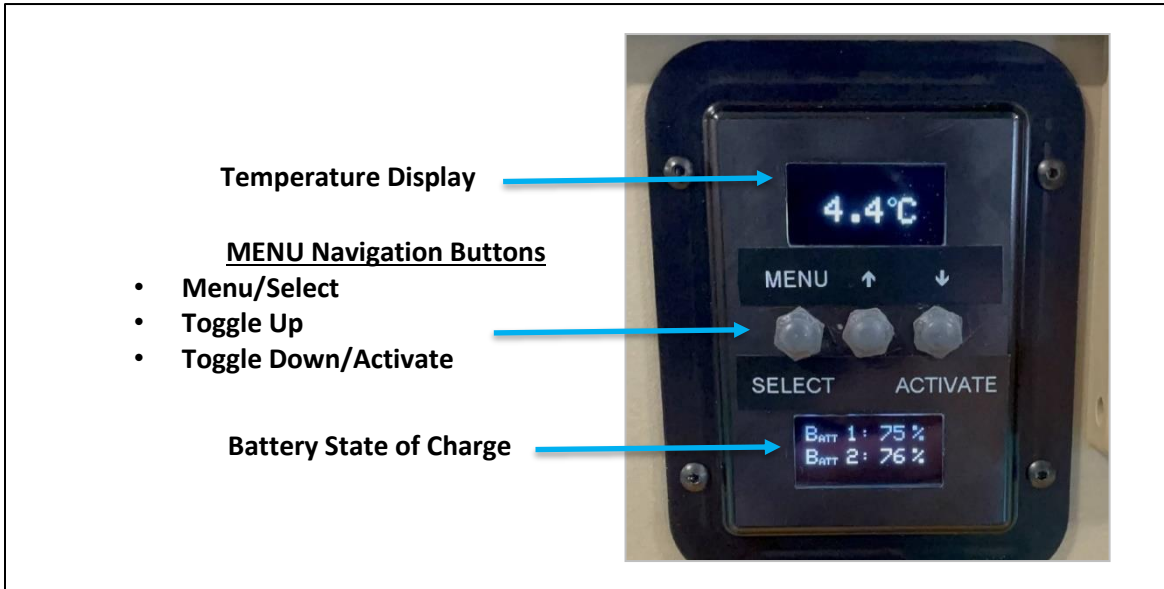

Figure 10: ECM Display, Startup Screen – Battery Example
- 7) Once a power source is connected, the xFridge will startup within 3-5 seconds as indicated by the ECM Displays (see Figure 10)